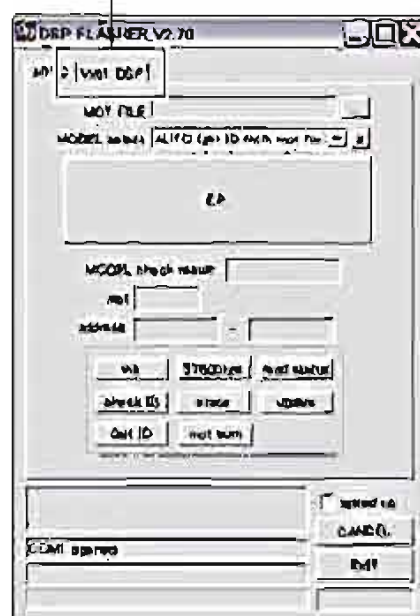

Fig. 4
The screen appears as shown below. (Fig. 4)
2. Click [Vx61 DSP]. (Fig. 4)